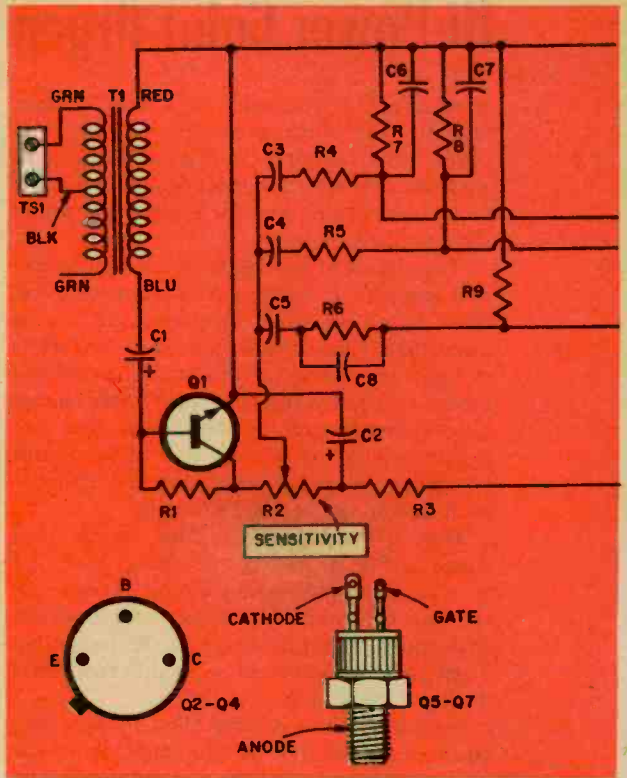

Fig. 5—Input signal is isolated by T1, amplified by Q1, then fed by R2 to R/C filters whose outputs are coupled to the three triac control circuits.
**How it Works.** Take a look at the schematic in Fig. 5. Part of the circuit is similar to a triac lamp-dimming circuit. Triacs Q5, Q6 and Q7 function as electronic switches that control the brightness of the lamps because they are switched on at different times during a cycle of AC.